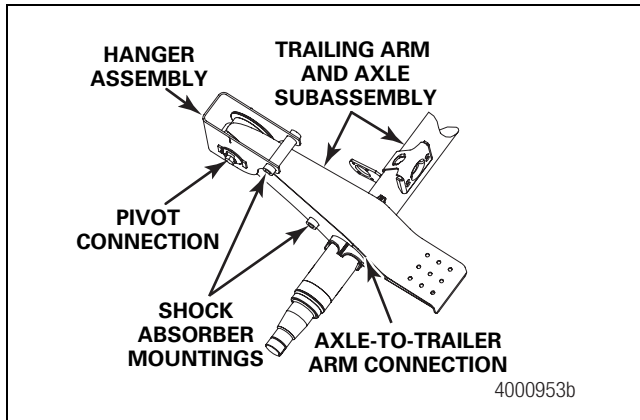

Figure 9.25
6. Inspect the structure of the following air suspension components. Figure 9.25.